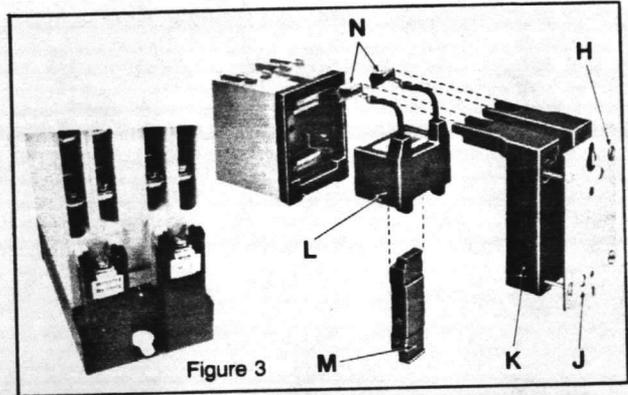

Figure 3
The coil on the Type X relay is easy to replace from the back of the device without having to remove the contact block assembly from the basic relay (Figure 3). To replace the coil:
1. Loosen 4 captive baseplate screws (H).
2. Lift off baseplate (J) and lower housing assembly (K).
3. Lift out coil (L) and slide out magnet (M). Re-install magnet (M) (note orientation in Figure 3) in new coil and replace coil in relay.
4. When replacing baseplate and lower housing assembly, make sure the coil terminals (N) slide into the lower housing slots before the assembly is re-installed on the relay (Figure 3).
5. Tighten the 4 baseplate screws (H). See Table 3 (page 2) for factory recommended tightening torques.